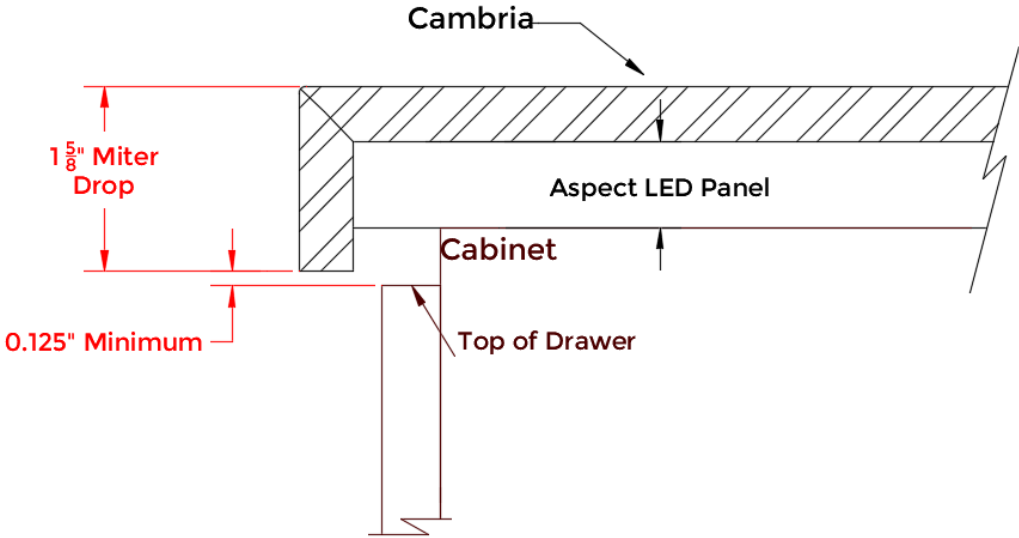

Figure 2
- a. **EXAMPLE ONE:** **Figure 2** illustrates a case in which the Aspect LED panel can be placed directly onto the top of the countertop.